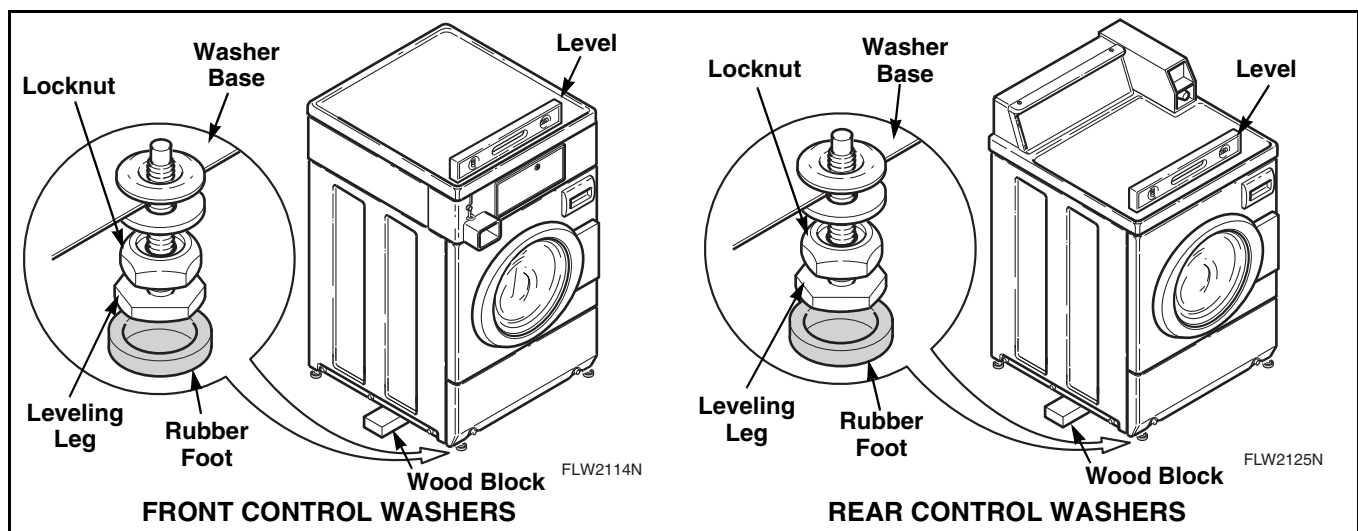

Figure 12
- Place level on washer, refer to *Figure 12*, and check if washer is level from side to side and front to back.
NOTE: Level must rest on raised portion of top panel. Refer to *Figure 12*.
- If washer is not level, tilt washer to access front and rear leveling legs. For easier access to leveling legs, prop up washer with wooden block. Refer to *Figure 12*.
- Loosen locknuts and adjust the leveling legs until the washer is level from side to side and front to back (using a level). **Make sure washer does not rock.** Refer to *Figure 12*.
- Place rubber feet on all four leveling legs. Refer to *Figure 12*.